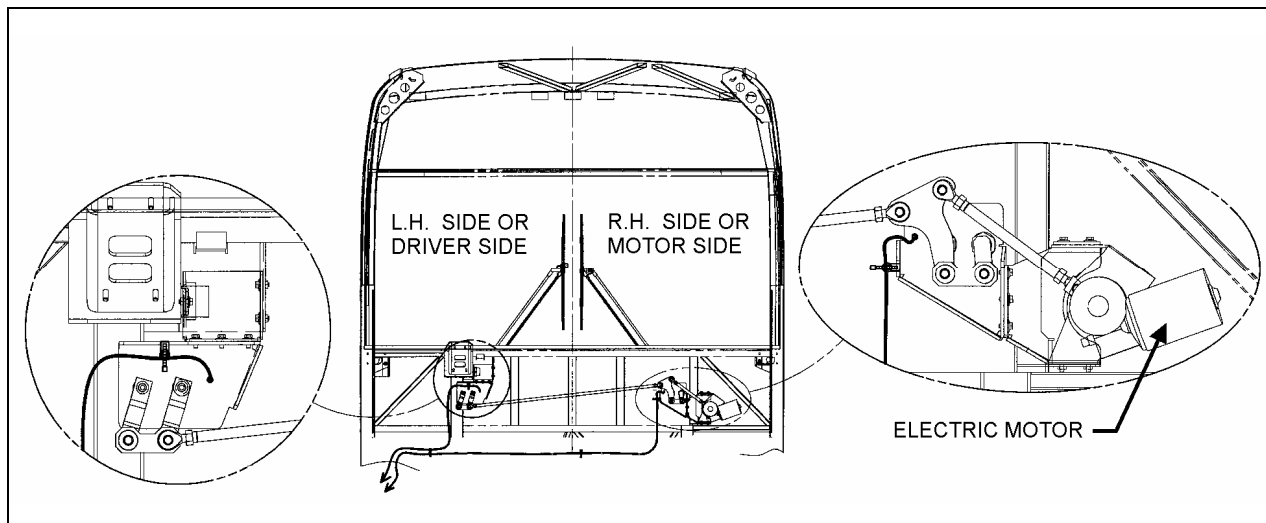

FIGURE 36: WINDSHIELD WIPER INSTALLATION
The windshield wipers are controlled by one electric wiper motor that is accessible for maintenance after removing the appropriate access panel beside the footwell (refer to figure 36). Turn the multifunction lever forward to activate windshield wipers (item 2, fig. 34). The first position operates the wipers at low speed and the second position operates the wipers at high speed. Turning the lever backwards will operate the wipers in the intermittent mode.